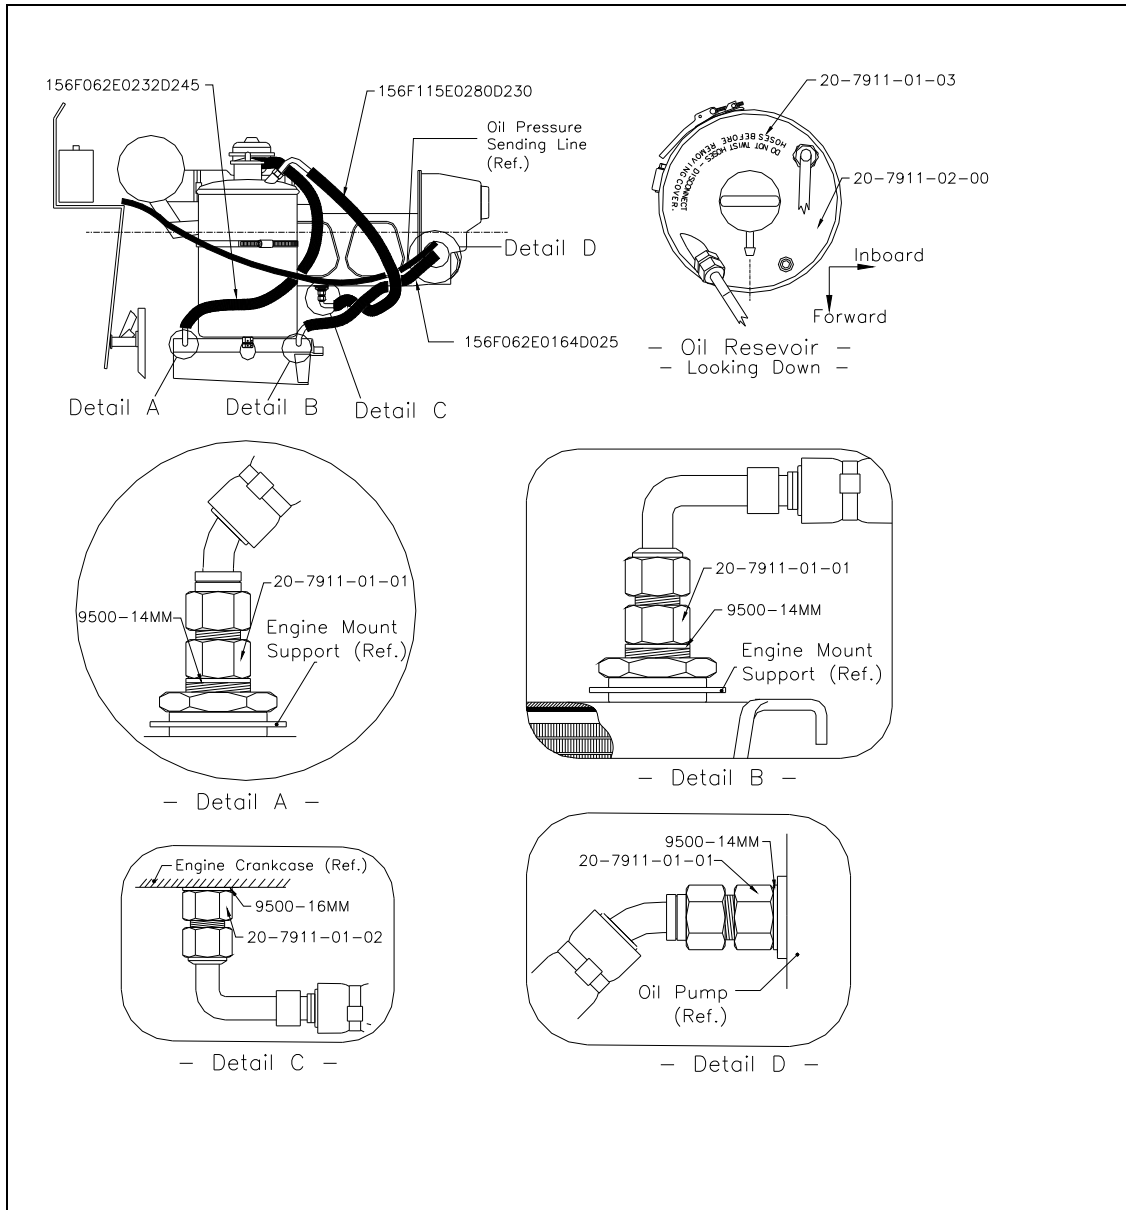

Figure 1
- 10.6** Install remaining parts from kit as shown in Figure 1.